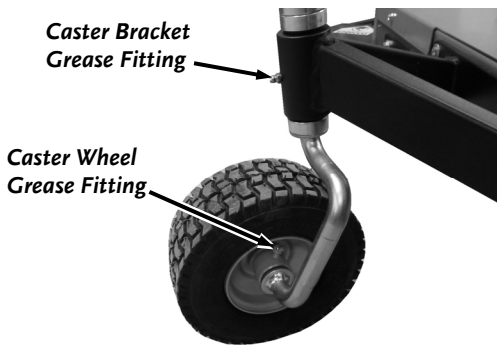

Figure 6
1. Apply general-purpose lithium grease to the Wheel Bracket Grease Fitting and the Caster Wheel Grease Fitting using a grease gun (**Figure 6**).